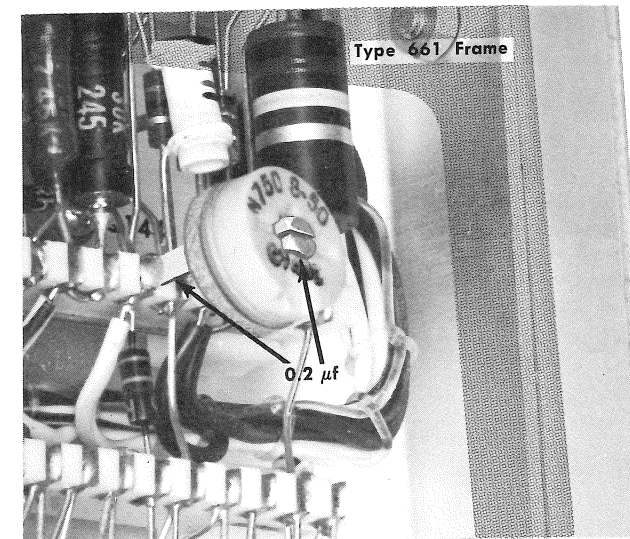

Fig. 5-9. Adding 0.2-μf capacitor to C146B of Type 5T1A.
c. Locate C146B at the upper rear of the Type 5T1A, as shown in Fig. 5-9. Place a 0.2-μf (or 0.25-μf) capacitor across the terminals of C146B as illustrated. (This increases the trigger circuit hold-off time so the free-run rate is about 18 msec between samples or about the same as a 50 cycle/second trigger.)